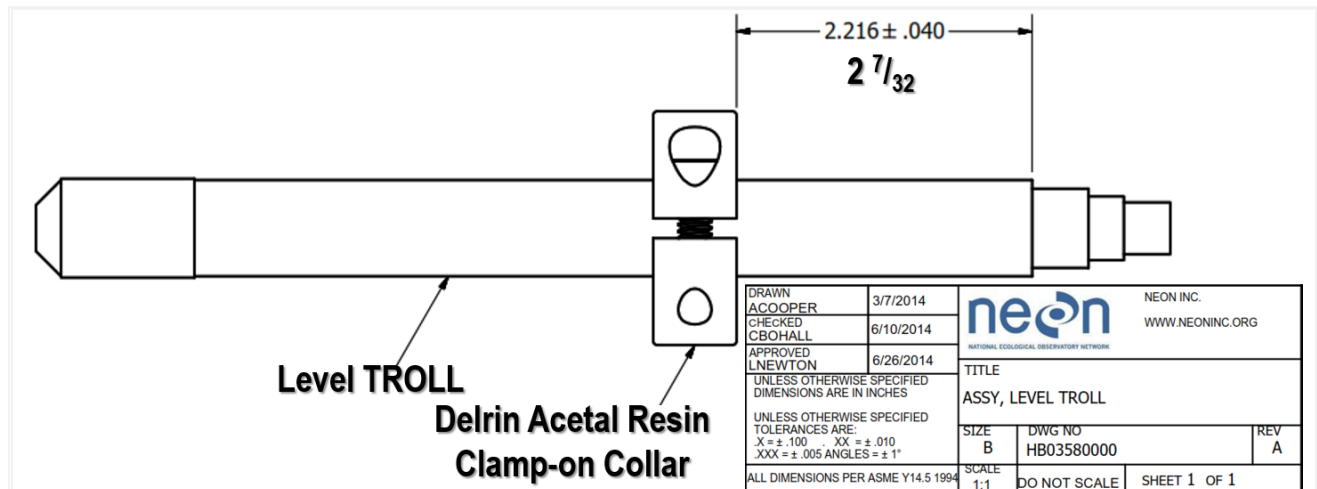

Figure 16. HB03580000 Assembly, Level TROLL | Clamp-on Collar Location on Sensor
STEP 5 | Remove the sensor from the delrin acetal resin clamp-on collar (reference Figure 16). Remove biofouling/animal excrement from the clamp on-collar with a dry brush and lake water.
STEP 7 | Install the clamp-on collar to the “refreshed” Level TROLL 500 $2.216 \pm .040$ ($2 \frac{7}{32}$) from the sensor cable end (Figure 16). The Level TROLL 500 does not require configuration like the Aqua TROLL 200. It should “plug-and-play” upon reinstallation.